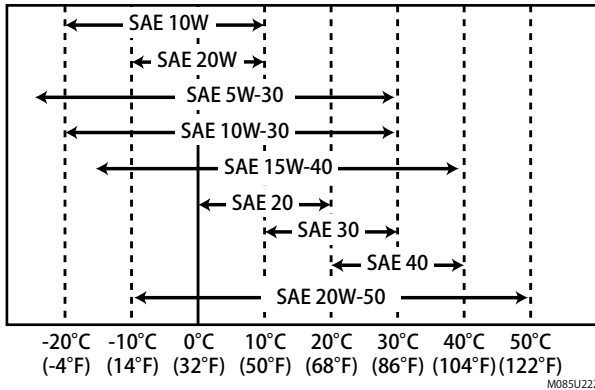

Fig. 7-6
- Select the oil viscosity based on the ambient temperature where the engine is being operated. See the SAE service grade viscosity chart (Fig. 7-6).